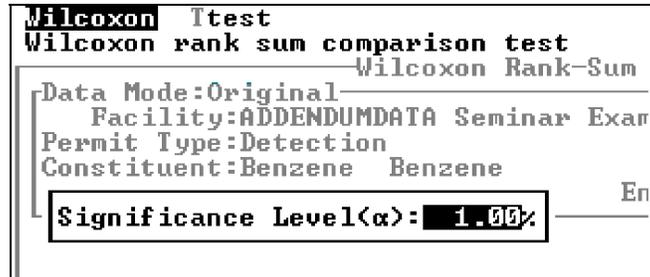

Figure 5-137. The Significance Level dialog.
4. Press **<W>** to execute the Wilcoxon option of the TwoSample menu. The Significance Level dialog appears on your screen as shown in Figure 5-137.